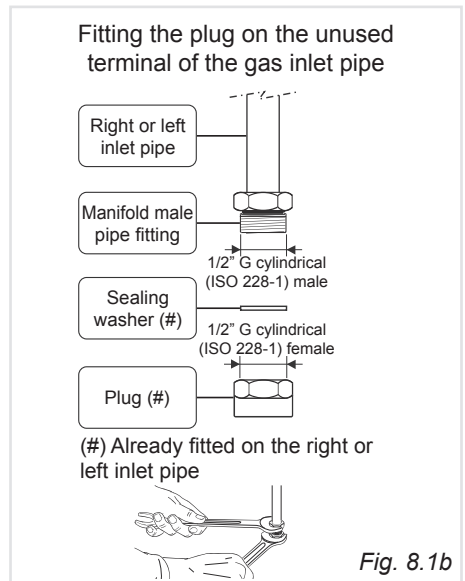

Fig. 8.1b
- The unused inlet pipe must be closed off with the cap and sealing washer supplied (Fig. 8.1b).